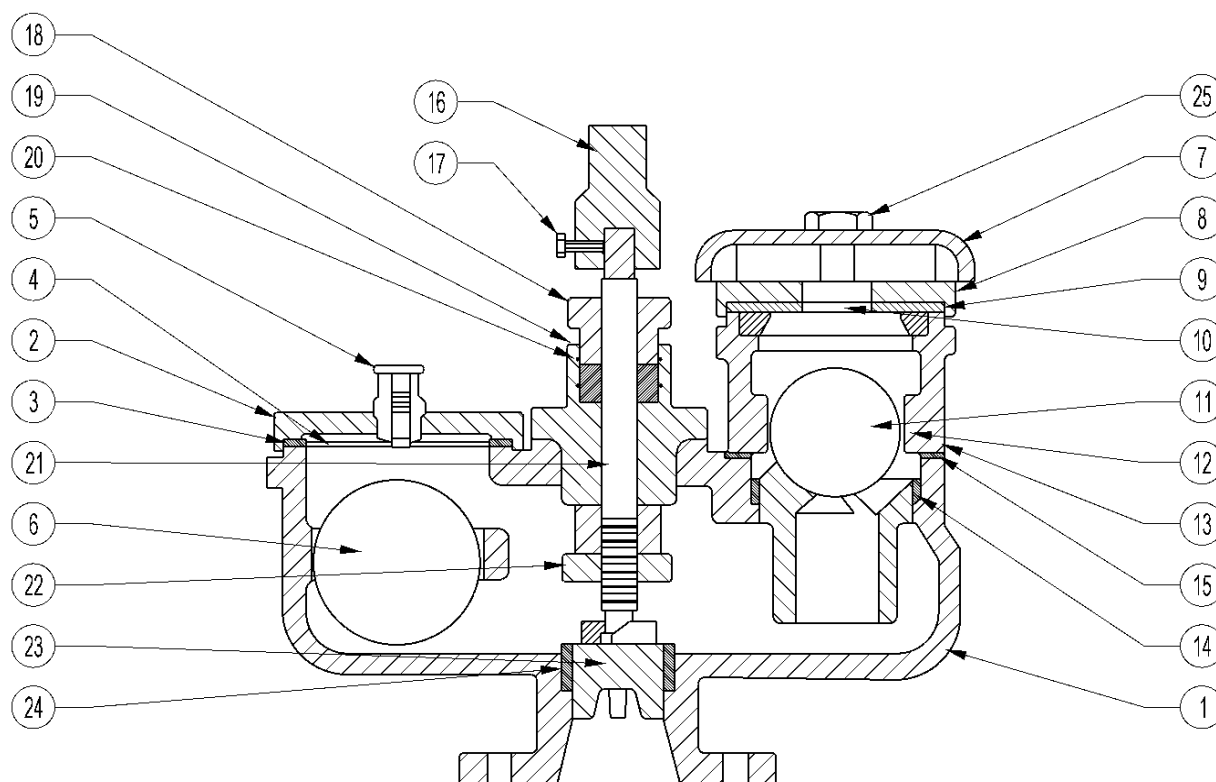

Figure 3: Combination air valve with isolating valve.
- Screwed end of DN 65 with external clockwise round thread of 12.7 mm pitch (2.5 inches x 2TPI) to BS 750 Figure 3. End to be fitted with blank cap or plug, attached to the body with a suitable lug, S-hook and chain or equivalent.